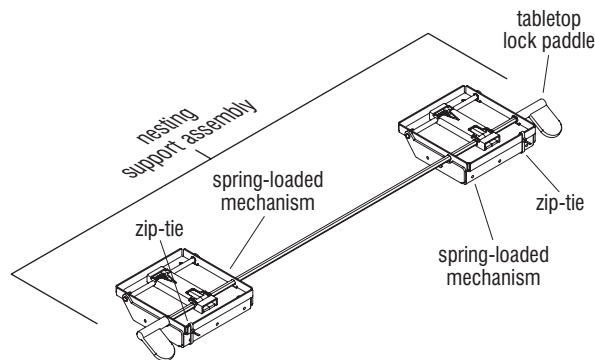

Figure 4
13. One side at a time, press down firmly on the top of the closed spring-loaded mechanism, cut the zip-tie with a wire cutter and pull it out. While holding the mechanism down firmly, gently lift on the tabletop lock paddle, and release holding pressure to open that side of the mechanism. Repeat the process for carefully cutting and removing the zip-tie, then actuating the tabletop lock paddle to open the mechanism at the other end of the support assembly. Take care to not actuate the tabletop lock paddles while cutting, which may release the spring-loaded mechanism quickly and cause personal injury (Figure 4 & Details E & F).